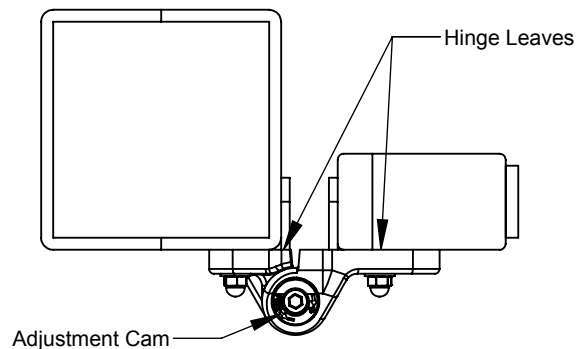

Figure 5
3. Install self-closing hinge assembly to mounting flanges (installed in step 2) and secure with washers and acorn nuts (USE HAND TOOLS ONLY). Hinge should be positioned as shown so that the locking grooves on the mounting flanges will align with grooves on the back side of the hinge assembly (Figure 5).